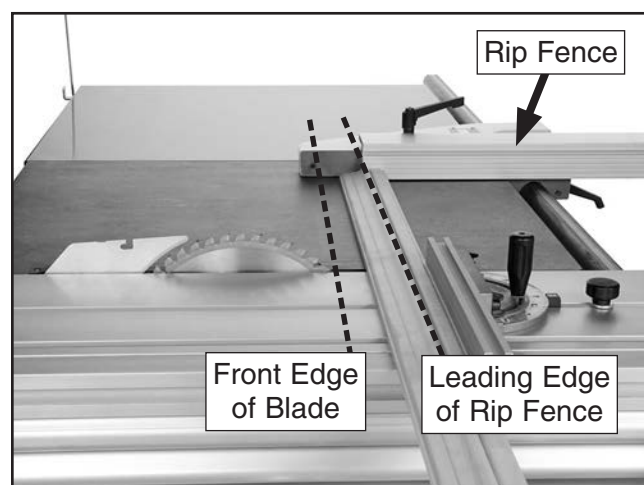

Figure 113. Example photo of correct rip fence position when using it as a cut-off gauge (blade guard removed for clarity).
4. Slide leading end of rip fence behind front edge of blade (see **Figure 113** for an example).
5. Load workpiece onto table saw and against rip fence. The setup should look similar to **Figure 113**.